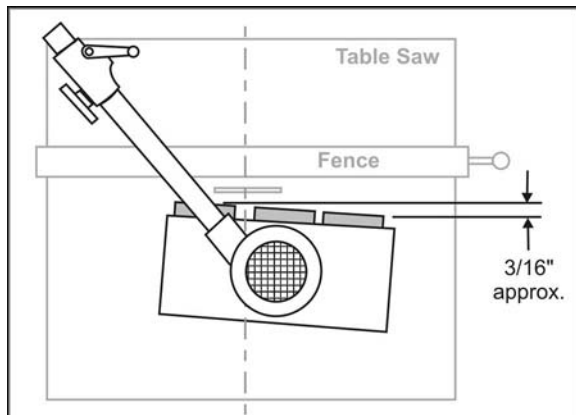

Figure 20
- Position the 3-roller stock feeder so that the axis of the saw blade lines up between the center roller and outfeed roller. (See Figure 20.) Position the 4-roller stock feeder so that the axis of the saw blade lines up between the center wheels. These positions will allow the Stock Feeder to grip the outcut of the workpiece as it leaves the blade.
- Rotate the Stock Feeder so that the direction of feed is angled slightly toward the fence by approximately $3/16''$ (5mm); that is, the outfeed roller should be slightly closer to the fence than the infeed roller. See Figure 20.